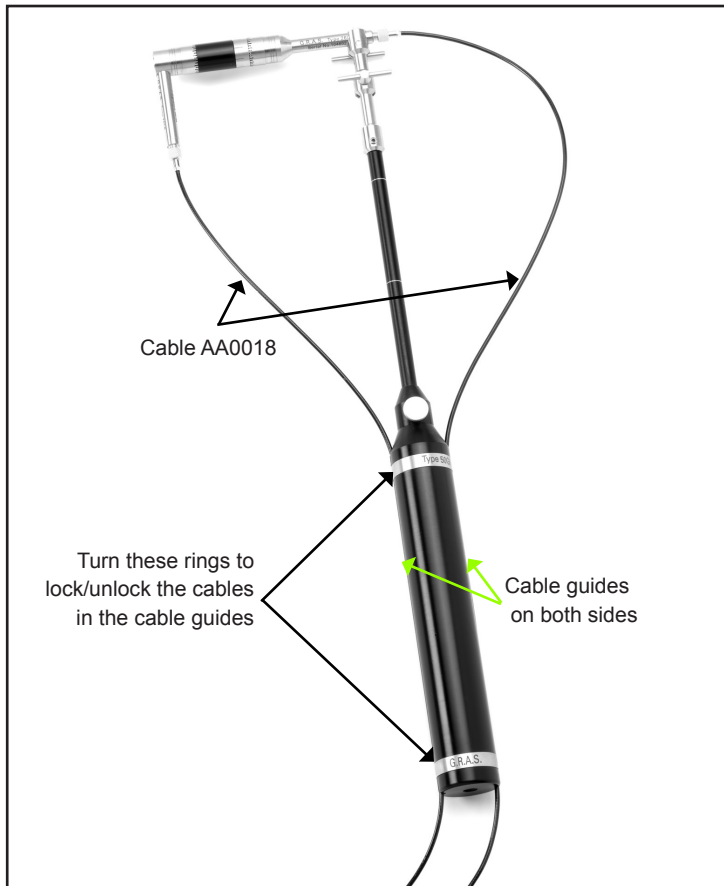

Fig. 3.7 Example of completely assembled Probe Type 50GI (symmetrical setup with 25-mm spacer)
9. Connect the Cable AA0018 to the preamplifiers (Fig. 3.7).
10. Mount the cables into the cable guides of the probe handle (Fig. 3.7).